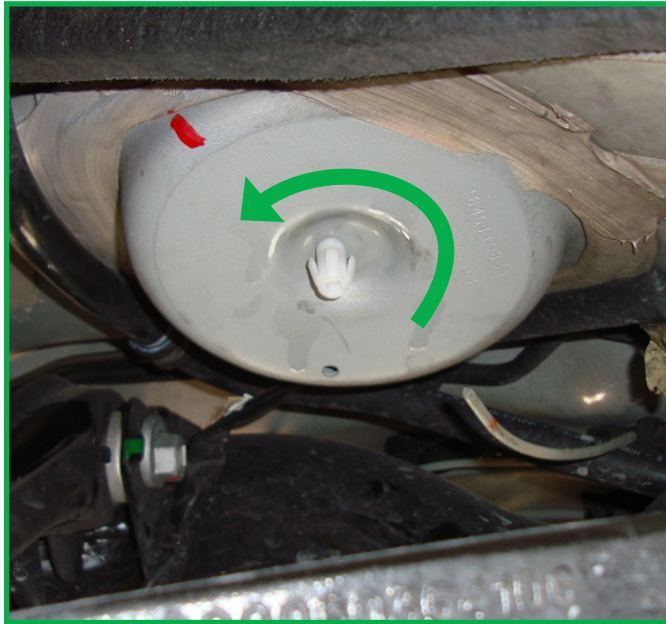

FIGURE 4
6. Unscrew the top air spring retaining cup and discard. (Figure 4)